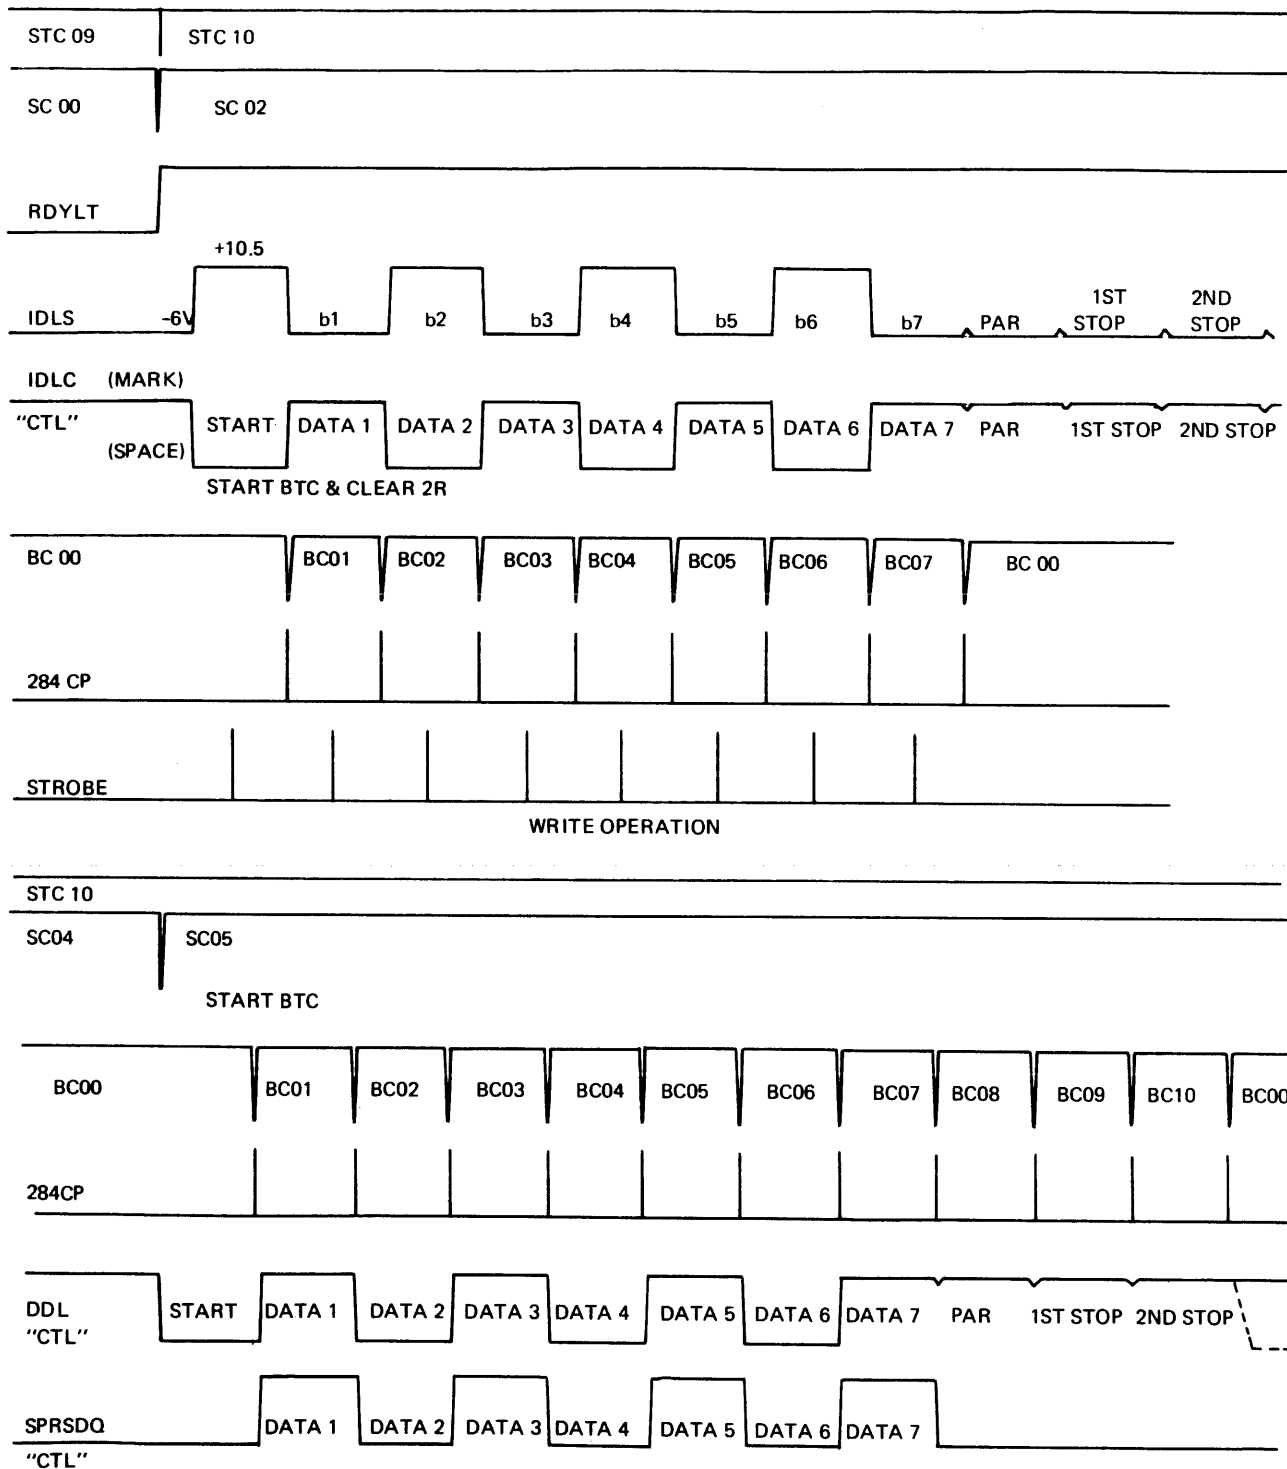

Fig. II-11
(Refer to Figure II-11)
Figure II-11 illustrates the timing of strobing the serial data bits (for one character from SPO) to the Input Register. The character illustrated is "U" whose ASCII code is 1010101 (b 1 - 7). Depressing the "U" Key will cause IDLC to go false. This starts the Bit Time Counter (BTC) and clears the Input Register. When BTC = 144 is true Strobe occurs. The Strobe which occurs when the start bit is present has no significance as the data bits are set in the Input Register when BC = 01 thru 07 is true. When BC = 07 is true and BTC = 283, the COUNT . . . Flip/Flop is reset which disables the BTC from being incremented with the 32us clock. IDLC is true when the parity and 1st and 2nd stop bit is received; however, as the strobe pulse does not occur and BC = 00 is true, the bits are not used in the control.
Figure II-11 illustrates the timing of gating the serial data bits (on character to SPO) from the output bit positions of the MOS Shift Register. The character illustrated is "U" whose ASCII code is 1010101 (b 1 - 7). When the write data is right justified in the MOS Shift Register, the Sub Counter (SC) is set to 05 and the BTC counter will start to count. When SC = 05 is true it forces ODL false thus the Start bit is sent to the SPO. When BTC = 284, 284CP is true and the BC counter is incremented by 1. When BC is equal to 01 thru 07 if the output bit position of the MOS Register which corresponds to the BC count is true, then SPRSDQ.1 is true. SPRSDQ.1 true causes ODL to go true thus a data bit (Mark) is sent to the SPO via ODLS. (ODLS = -6V for Mark). When the BC count is equal to 10 and 284CP is true, BC is cleared to zero.